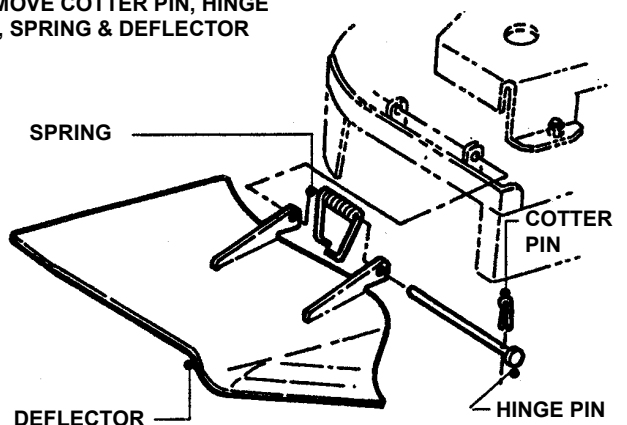

FIGURE 1.2
**C.** Remove deflector and store it, along with the other parts, for later use. See Figure 1.2.